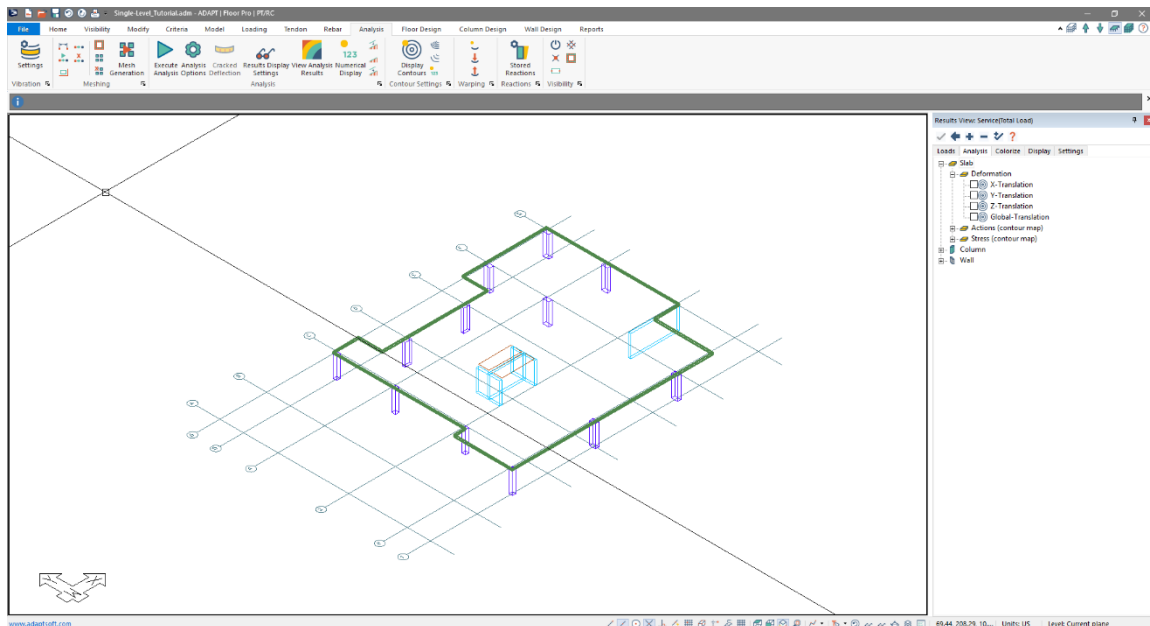

Figure 3-14
- Click on the *Top Front-Right View*  icon on the **Bottom Quick Access Toolbar**. The user should now see the view as shown in **FIGURE 3-14**.